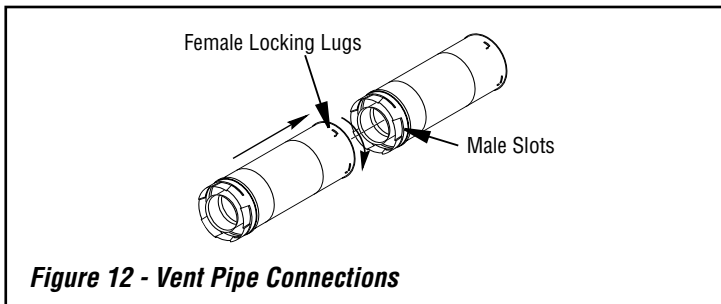

Figure 12 - Vent Pipe Connections
Twist-Lock Procedure: Female ends of pipes have locking lugs (indentations). These lugs will slide straight into matching slots on male ends of adjacent pipes. Push pipe sections together and twist one section clockwise approximately one-quarter turn until sections are fully locked (see **Figure 12, Page 19**).
- Assemble desired lengths of pipe and elbows necessary to reach from fireplace flue up through firestop. Be sure all pipe and elbow connections are fully twist-locked (**Figure 12, Page 19**).